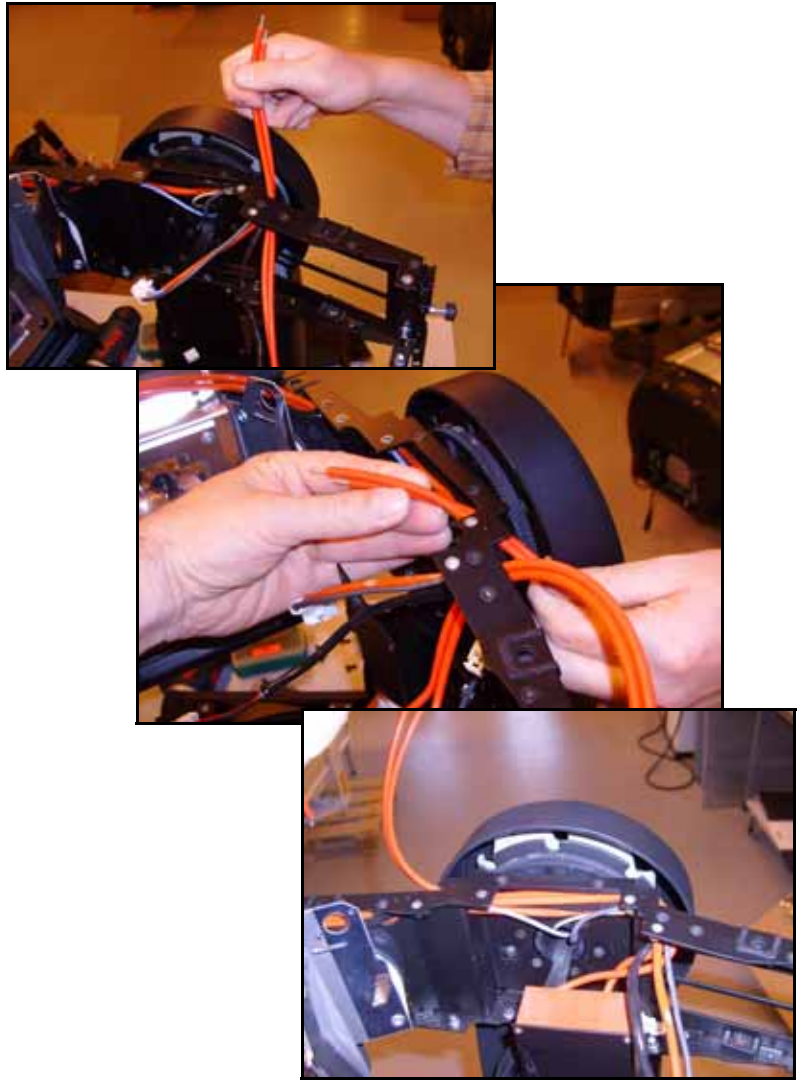

Figure 56
61. See Figure 56. Hold the ignitor up to the head and route the lamp leads from the ignitor back towards the lamp compartment as the original leads were routed.